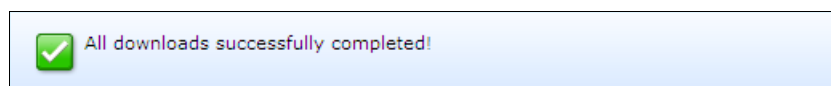

Figure 9-70 Download process completes successfully
10. A message appears showing that the download has completed, as shown in Figure 9-70. Click **Next**.